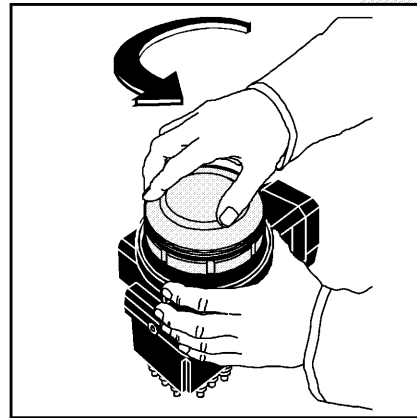

Fig. B8
2. The cartridge is screwed onto the pump. Turn it counterclockwise to remove it (fig. B8).